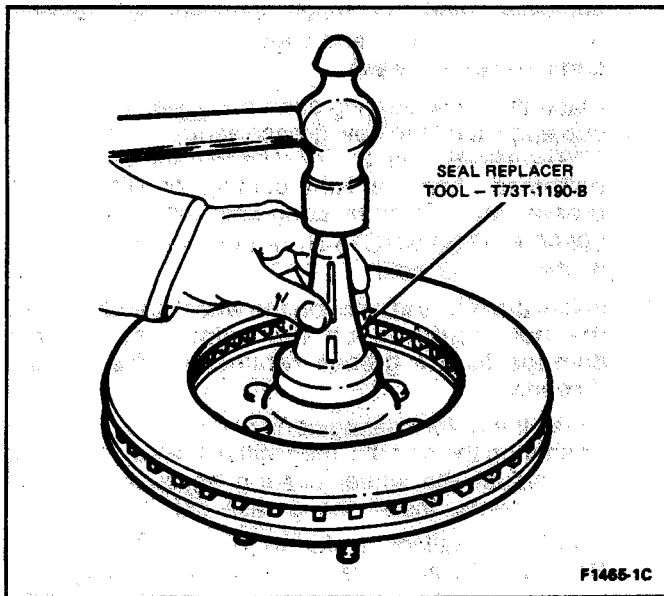

FIG. 3 Installing Grease Seal
12. Place the inner bearing cone and roller in the inner cup and install the new grease seal with driving tool T73T-1190-B, (Fig. 3). Be sure that the seal is fully bottomed. Apply a light coating of lithium-base grease, Multi-Purpose Long-Life Lubricant, C1AZ-19590-B, (ESA-M1C75-B) or equivalent to the lips of the grease seal.